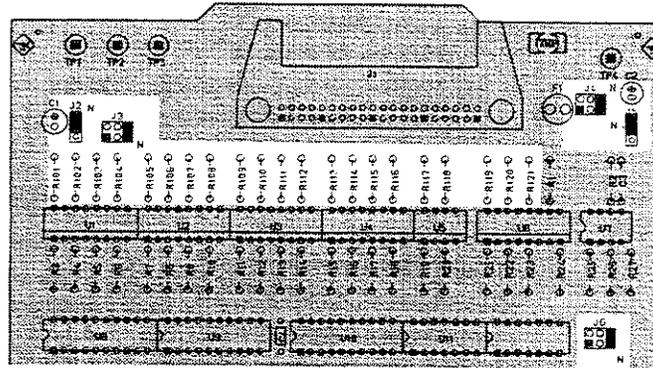

Figure 10-14. Jumper Settings
(2) ORANGE and RED (See Figure 10-14.)
11. Connect the handler interface connector on the HP 4284A's rear panel to the handler simulator as shown in Figure 10-14.